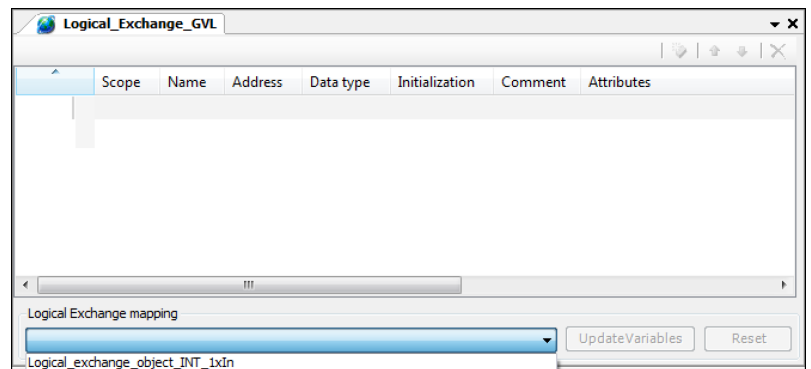

Fig. 27: Editor of the GVL for logical exchange with opened combo box
4. Select the appropriate logical exchange object from the list that opens (see Fig. 27)